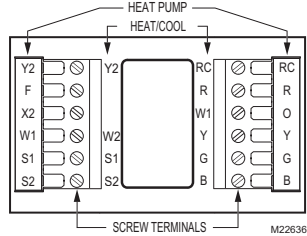

Fig. 3. Selecting terminal identifications for system type.
1. Select set of terminal identifications (Table 2) that corresponds with system type (heat/cool or heat pump in Fig. 3).